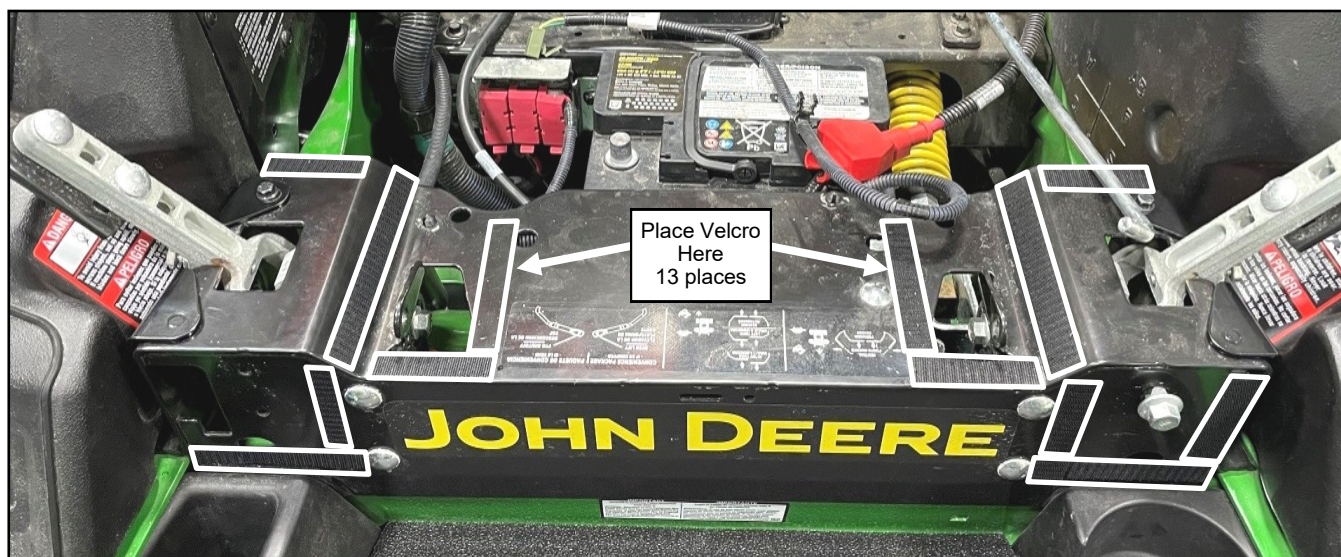

Fig. 1.31 (Install Velcro)
- 1.31 Install (13) pieces of Velcro as shown in Figure 1.31.